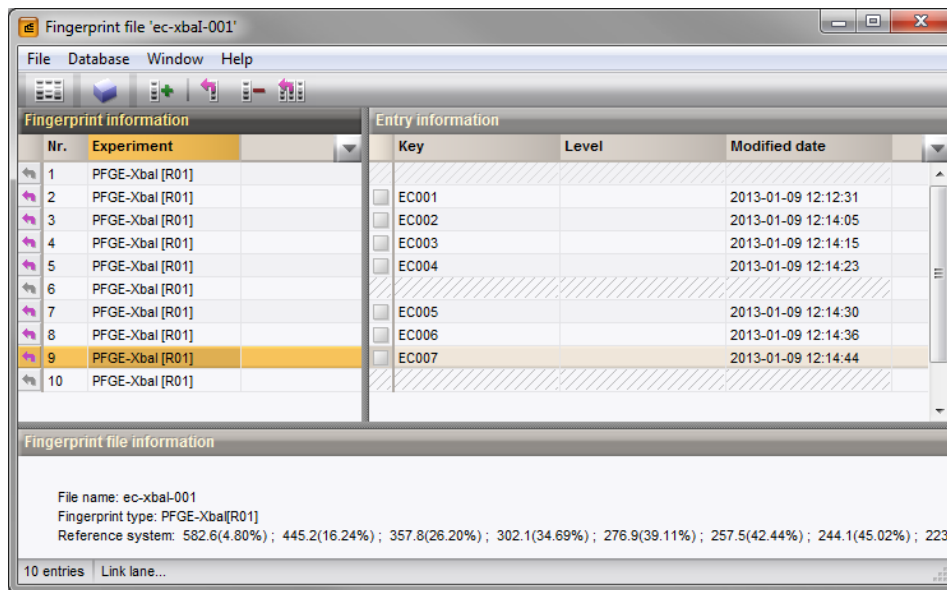

Figure 16: Fingerprint file with linked lanes.
1. In the *Fingerprint files* panel, double-click on the filename **ec-XbaI-001** to open the *Fingerprint* window (see Figure 16).
4. Continue linking the remaining non-reference lanes from **ec-XbaI-001** to new database entries as shown in Figure 16.